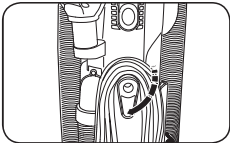

Fig. 2
1. The upper cord hook has a quick-release. To release the cord, rotate the hook downward (Fig. 2).